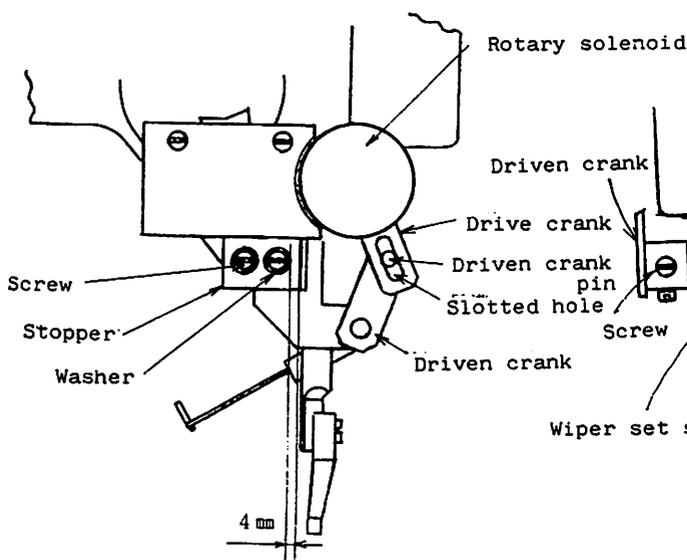

Fig. 10.21
- (1) Loosen the set screw for rotary solenoid drive crank.
- (2) Adjust position of the stopper so that gap between the bent part of stopper and the washer (clamped by the right stopper screw in Fig. 10.21) is about 4mm, as shown in Fig. 10.21, and secure it in that position.
- (3) Locate the wiper drive crank so that the driven crank pin is at the center of the slotted hole of drive crank, as shown in Fig. 10.21.